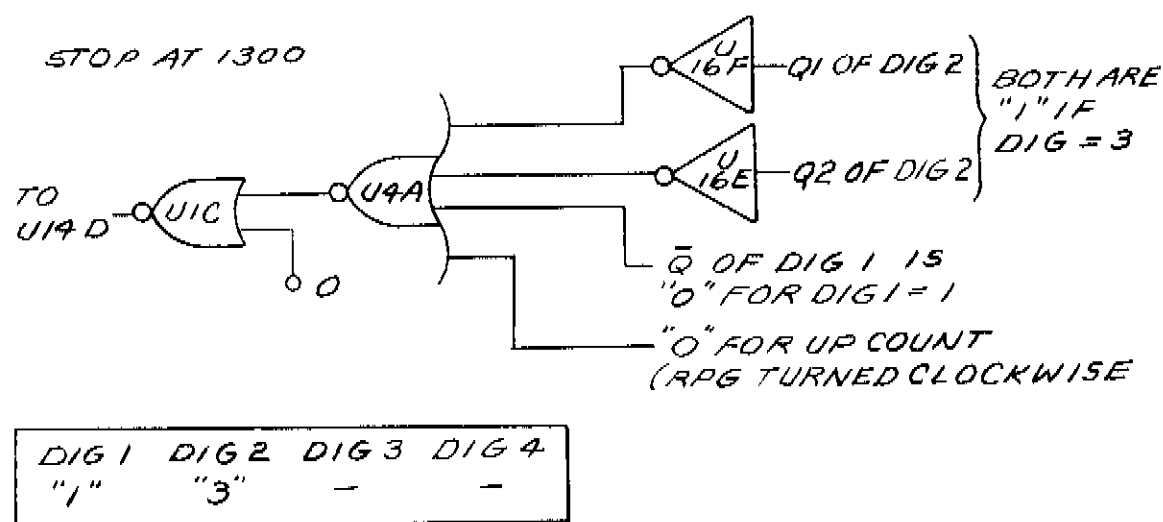

Figure C3-22E. 1300 MHz Stop Circuit Operation
**1300 MHz Stop Circuit.** The necessary logic state applied to U14D to prevent RPG pulses from reaching the counter is provided by U4A for the 1300 MHz Stop Circuit. When the output of U4A (which is then inverted by U1C) is a logic "1", U14D controlling input is a logic "0". The output of U4A is a logic "1" only when all inputs are logic "0". These inputs are logic "0" when Q1 and Q2 of DIGIT 2 (U17) are logic "1", DIGIT 1 reads logic "1" (Q output = 1,  $\bar{Q}$  output = 0), and counters are counting up (RPG turned clockwise). Refer to Figure C3-22E for simplified schematic diagram of 1300 MHz Stop Circuit.